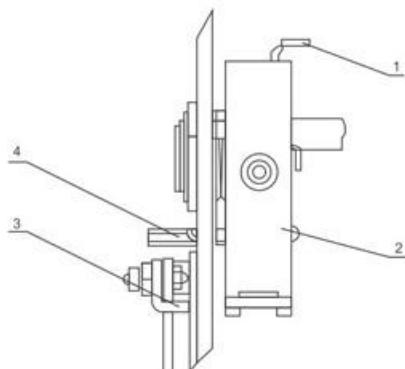
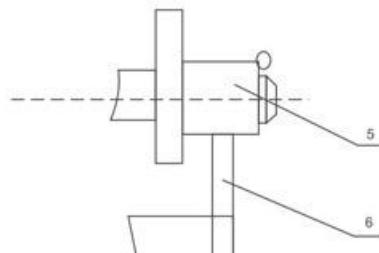

图3/ Fig.3
图4/ Fig.4
断路器能提供完善的防误操作功能。(参见图3、图4)
Circuit breaker provides perfect anti-misoperation function. (See Fig.3 and 4)
- d、手车式断路器在工作位置或试验位置合闸后，由滚轮5压推进机构锁板6，手车将无法移动，防止在合闸状态推进或拉出负荷区。(图4)
d. When the handcart type circuit breaker gets closing in work or test position, the idler wheel 5 will press the lock plate 6 of propelling mechanism, and the handcart could not move any more, in order to prevent pushing in or drawing out from the load area in closing state. (Fig.4)